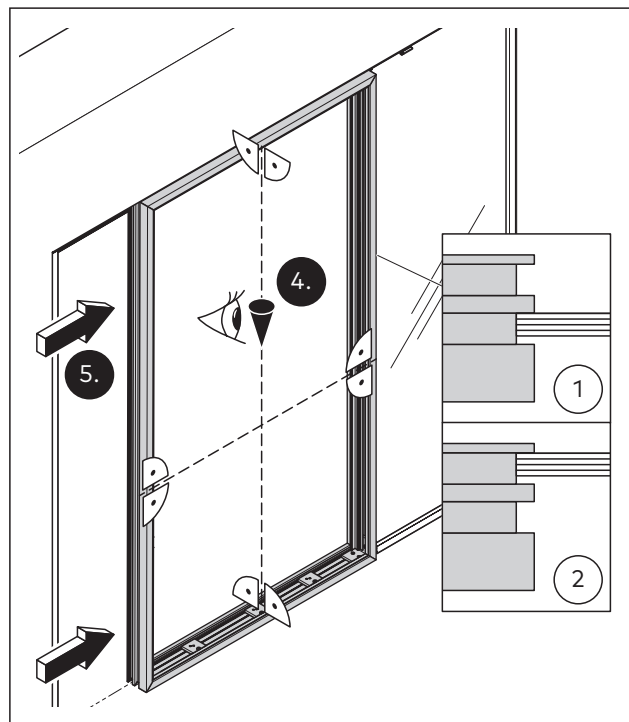

Fig. 22 Align the acoustic element frame
- 4. Align the acoustic element frame vertically (Fig. 22).
- For a flush alignment use the corresponding joint of the acoustic element (see Fig. 22, pos. 2).